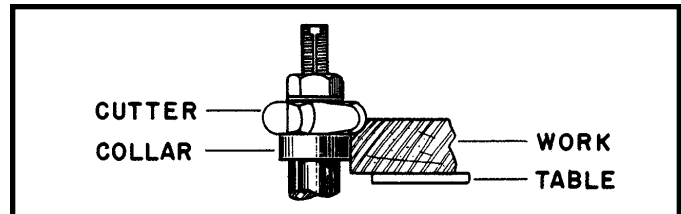

Fig. 43
2. When the collar is used below the cutter, as shown in Fig. 43, the progress of the cut can be observed at all times. However, any accidental lifting of the work will gouge the wood and ruin the workpiece.